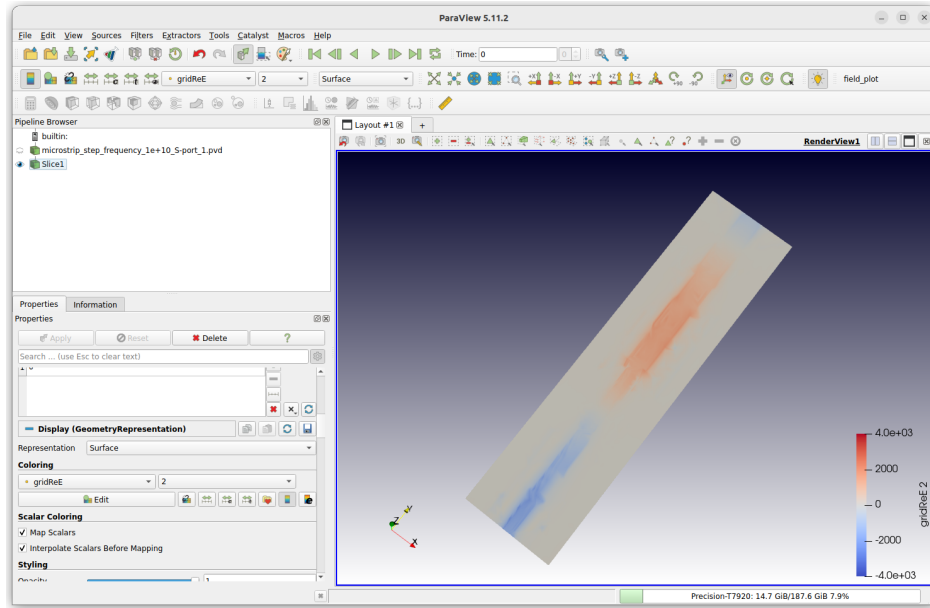

Figure 14: Screenshot of $\text{Re}(E_z)$ just under the microstrip lines.
- A screen shot of the resulting $\text{Re}(E_z)$ field just under the microstrip traces is shown in Fig. 14.